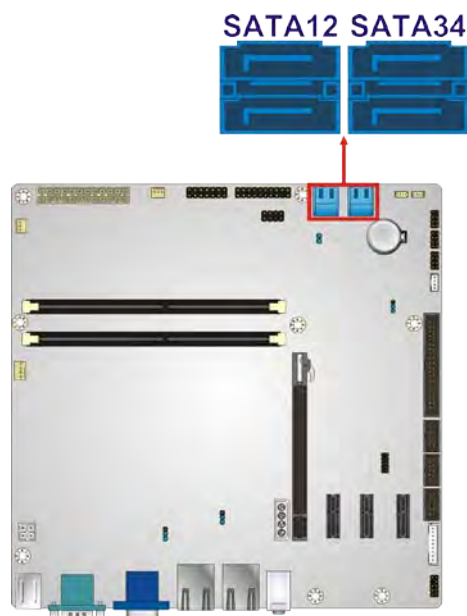

Figure 3-15: SATA 3Gb/s Drive Connector Locations
- CN Location: See **Figure 3-15**